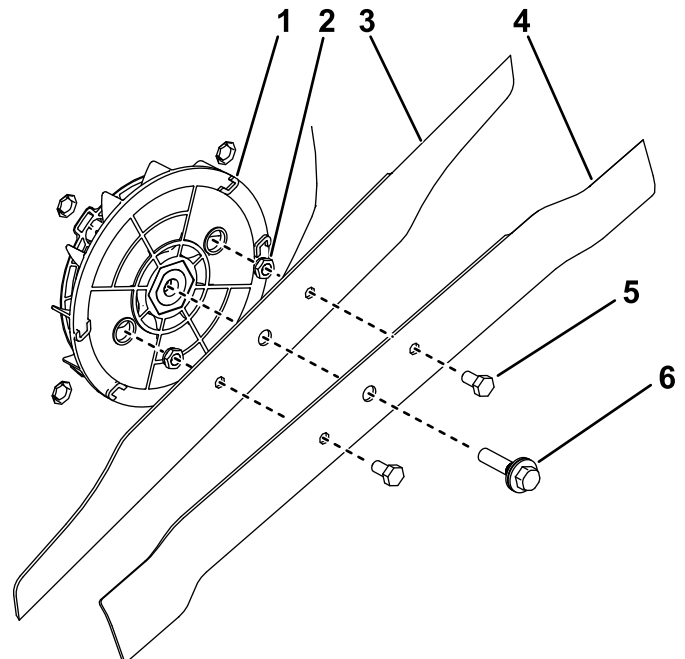

Figure 26
5. Secure the new blades to each other as shown in Figure 26; torque the nuts securing blades together to 18.9 to 19.6 N·m (167 to 173 in-lb).
6. Install the new blades using the blade bolt (Figure 26).